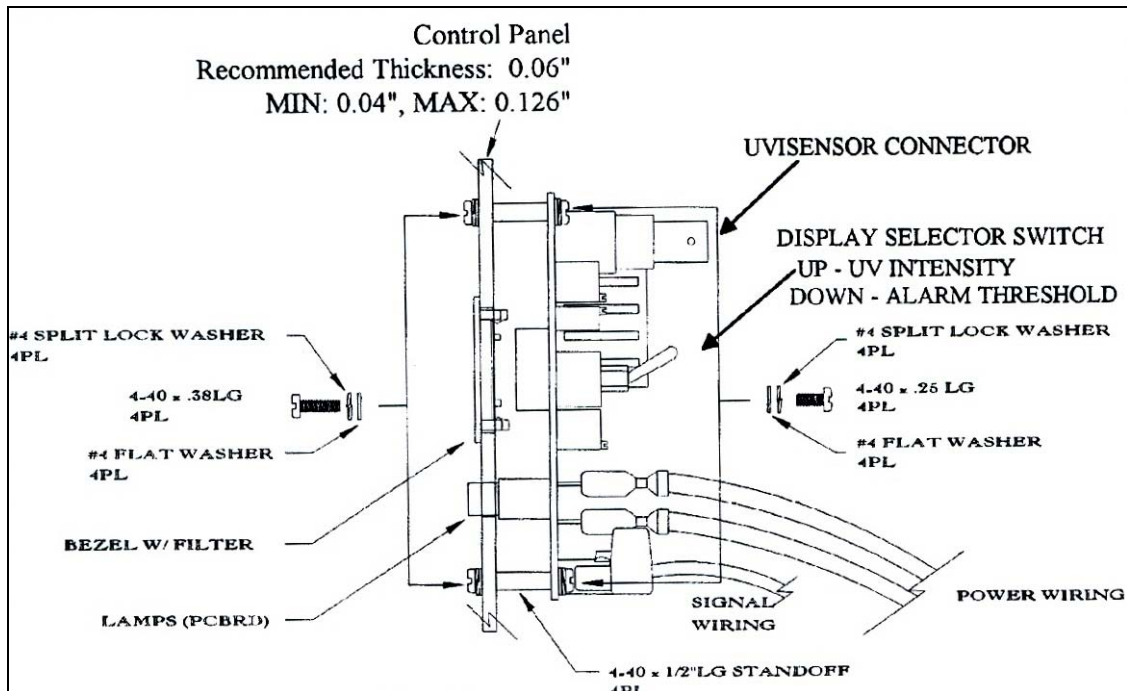

Figure 29: Unenclosed Module (PCBA) Installation
- Using the four 4-40 screws, four split washers, and four flat washers removed above, reinstall the four standoffs to the front side of the PCBA (see Figure 29).
- From outside the control panel, secure the PCBA with four 4-40 x .38LG screws, four #4 flat washers, and four #4 split washers. These components are not included in the hardware kit (see Figure 29).